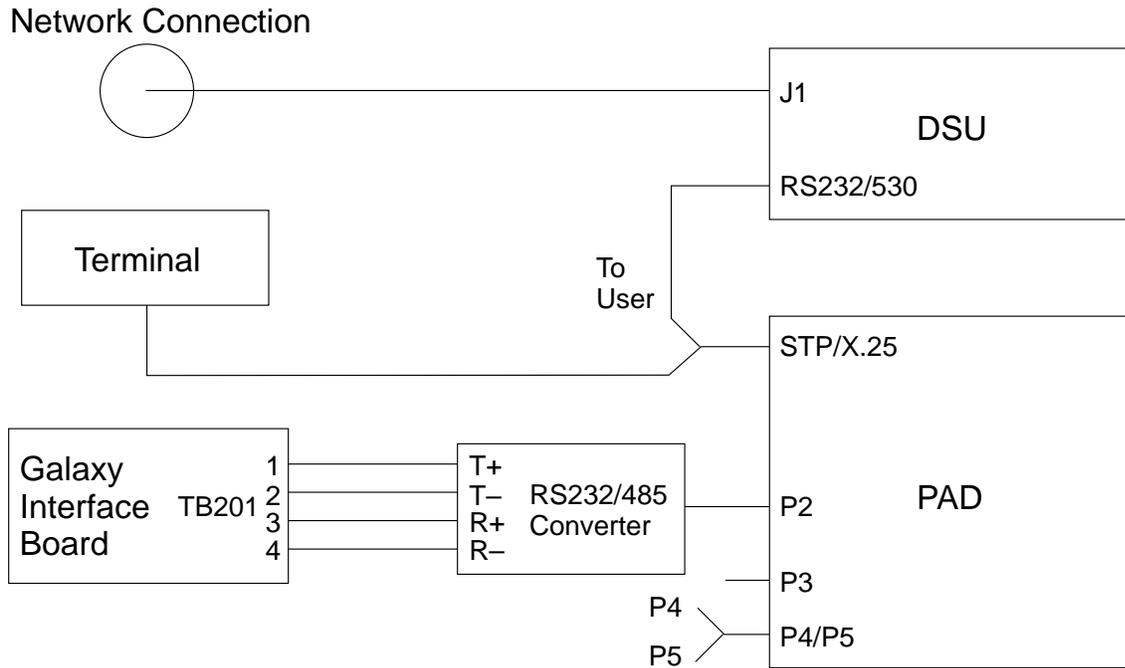

Figure D-1: Galaxy/X.25 Connection Block Diagram
Figure D-1 shows a block diagram of the X.25 connection. The asynchronous connection is accomplished through an RS-232/485 converter to the Galaxy. The synchronous connection to the X.25 network may be user configured as either a permanent virtual circuit (PVC) or as a switched virtual circuit (SVC). Contact your network administrator to determine which type of connection will be provided.
1. Connect the Y-cable labeled “To User” to the connector labeled “STP/X.25” on the back of the PAD unit (see Figure D-1).